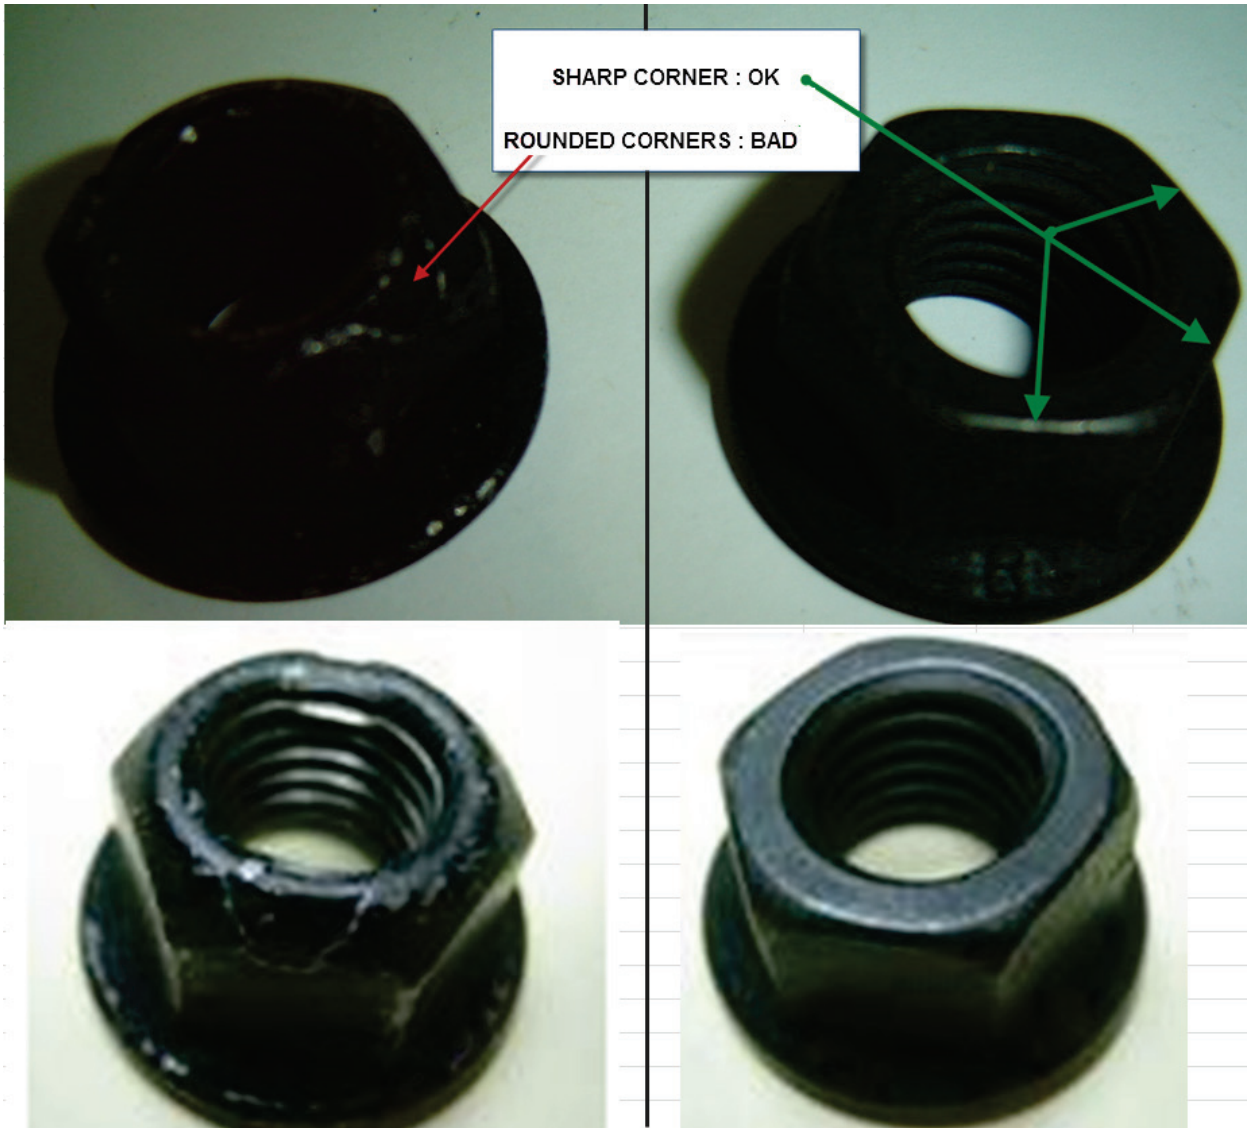

Figure 2
2. Nut head profile must not show rounded corners. (Fig 2)